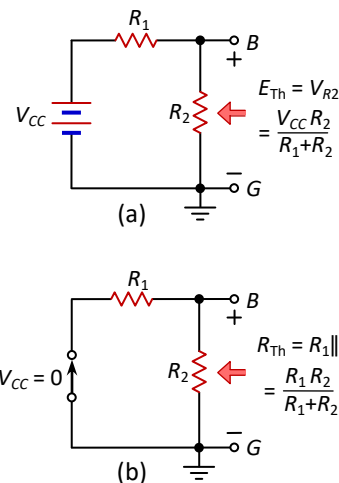

Fig.3.24: (a) Circuit for  $E_{Th}$  calculation, (b) Circuit for  $R_{Th}$  calculation.
**$E_{Th}$  Calculation:** Thevenin's voltage will be the open circuit voltage across  $R_2$  [see Fig.3-24(a)]. Applying voltage divider rule we get,
**$R_{Th}$  Calculation:** To calculate  $R_{Th}$ , first we have to replace the voltage source by short circuit as shown in Fig.3-24(b). Looking at the  $B$  and  $G$  terminals we find that  $R_1$  and  $R_2$  are in parallel. Therefore the Thevenin's resistance will be,